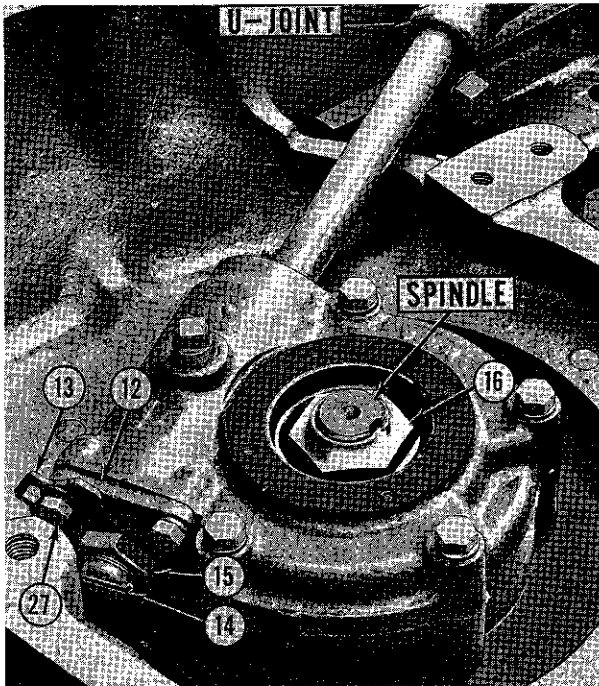

Fig. MH758 — Tricycle type manual steering gear installation. Worm shaft end play is adjusted by screw (14). Steering gear backlash adjuster is shown at (13).
10. WORMSHAFT END PLAY. To adjust the wormshaft end play, remove hood and grille and raise front of tractor to remove load from steering gear. Loosen jam nut (15—Fig. MH758) and tighten adjusting screw (14) to remove all end play without causing any binding when wormshaft is turned through its entire range. When adjustment is complete, tighten jam nut (15) securely.
only position in the steering gear range where no backlash should be present. To make the adjustment, loosen lock screw (27—Fig. MH758) and tap the adjuster (13) about $\frac{1}{8}$ inch in the direction of the arrow stamped out of the plate.
14. To remove the steering gear, remove the hood, grille and radiator. Disconnect the steering shaft front universal joint. Remove the steering gear housing cover and the nut (16—Fig. MH758) retaining sector to the vertical spindle shaft. Correlation mark the top of the vertical spindle shaft and the sector so that the sector can be reassembled to the same spline on the spindle. Unbolt the gear housing from the pedestal and remove the steering gear housing from the tractor.